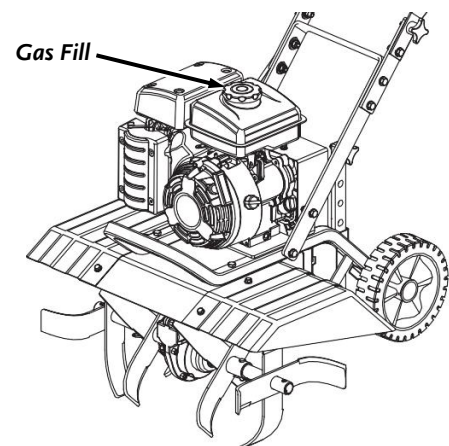

Figure 14
4. Fill the Gas Tank with fresh, unleaded gas (with a minimum of 87 Octane), to approximately 1" below the top of the Fill Neck to allow for Fuel expansion (**Figure 14**). Be careful not to overfill and reinstall the Cap before starting the Engine. See your Engine Owner's Manual for more information.
2. Check the gas level (**Figure 14** on page 12).